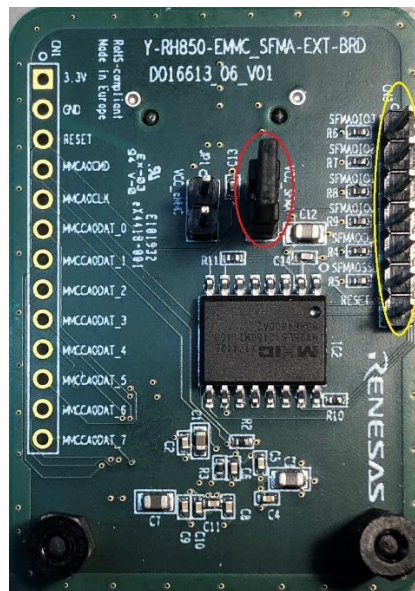

Figure 5 Peripheral module eMMC/SFMA - RH850-EMMC-SFMA-EXT-BRD
- Peripheral module eMMC/SFMA by default have main board connection to CN2, PiggyBack board - Y-RH850-F1X-176PIN-PB-T1-V4 do not have Port11 connection to CN2, to use SFMA interface additional 7 pin header 2,54mm pitch should be added (Figure 5 yellow ellipse). Jumper JP2 (Figure 5 red ellipse) should be applied to power supply serial flash IC.